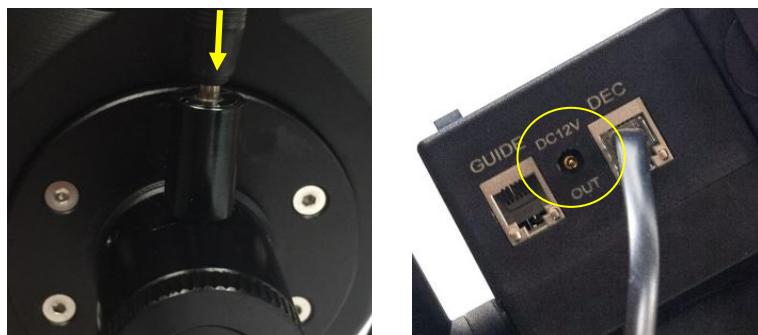

Figure 22. Connect polar scope LED
- (1) Level the CEM26 mount and set it to the Zero Position. Make sure the telescope optical axis is parallel to the polar axis (R.A. axis) of the mount. If using a finder scope, adjust it to be parallel to the telescope optical axis.
- (2) Remove both the polar axis cover. Thread the polar scope LED to the Polar Scope. Connect one end of the polar scope power cable to the illumination LED and the other end to the DC12V output located on RA Unit (Figure 22).
- (3) Turn the mount power on.
- (4) Adjust the polar scope dial to rotate one of the major ticks at the top.
- (5) Use the Hand Controller (**MENU** => "**Alignment**" => "**Position of Polaris/SigmaOct**") to display the current position of Polaris on the LCD screen, as indicated in the left side of the figure below. For example, June 22, 2014, 20:19:42 in Boston, US (long. W71°08'50" and lat. N42°30'32", UTC - 300 min,) the Polaris Position is 0h45.8m and 40.4m.